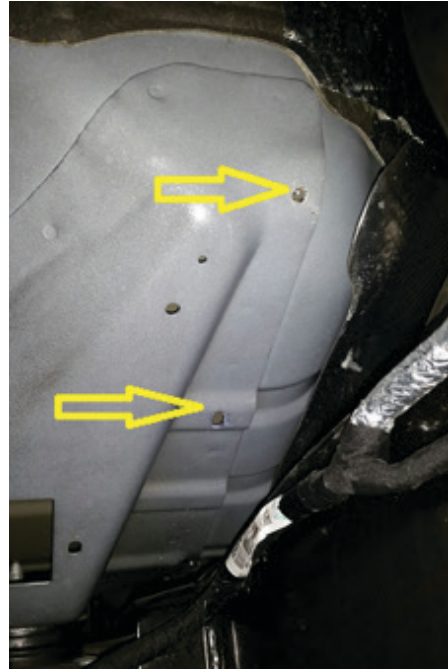

Figure 8
- G. Drill 1/4" hole and slot as shown (fig. 8).